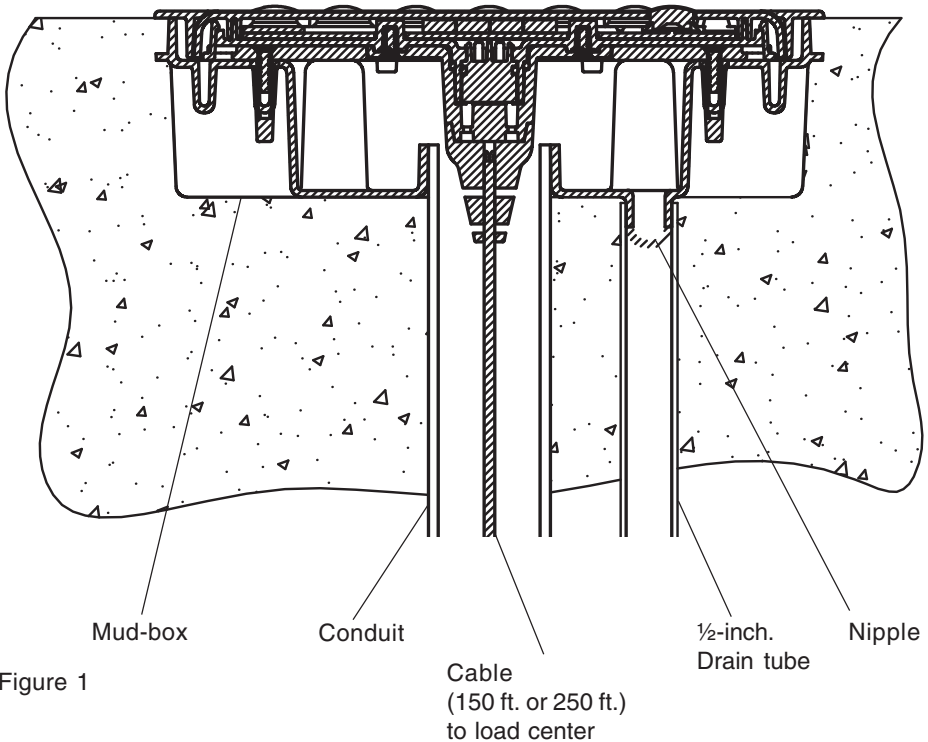

Figure 1
Prepare the mounting location near the spa: Install a one (1) inch conduit where the remote control is to be located (see Figure 1). Conduit may be reduced down to  $\frac{3}{4}$ -inch or  $\frac{1}{2}$ -inch after the first three (3) inches cast into the spa area. Be sure the conduit is perpendicular to the surface ( $90^\circ$  angle). Run the conduit, using sweep elbows for turns from the spa to the low voltage raceway of EasyTouch® to IntelliTouch® control system load center.
Mount the mud-box over the conduit. Trim the conduit so that it just protrudes into the mud-box. The fit will be loose. Orient the mud-box so that the spa-side remote is square with the deck or spa wall (see Figure 1). Secure the mud-box and plumbing together using neutral cure caulking or RTV. Insert the mud-box cover (secure with two screws) until the deck or spa wall are finished, discard cover when completed (keep the screws for bracket installation).